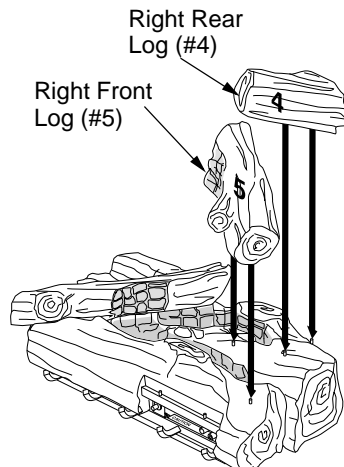

Figure 26 - Installing Right Top Logs (#4 and #5)
4. Place right rear log (#4) onto two pins on right rear of base log (see Figure 26).
5. Place right front log onto two pins on right front of base log (see Figure 26).